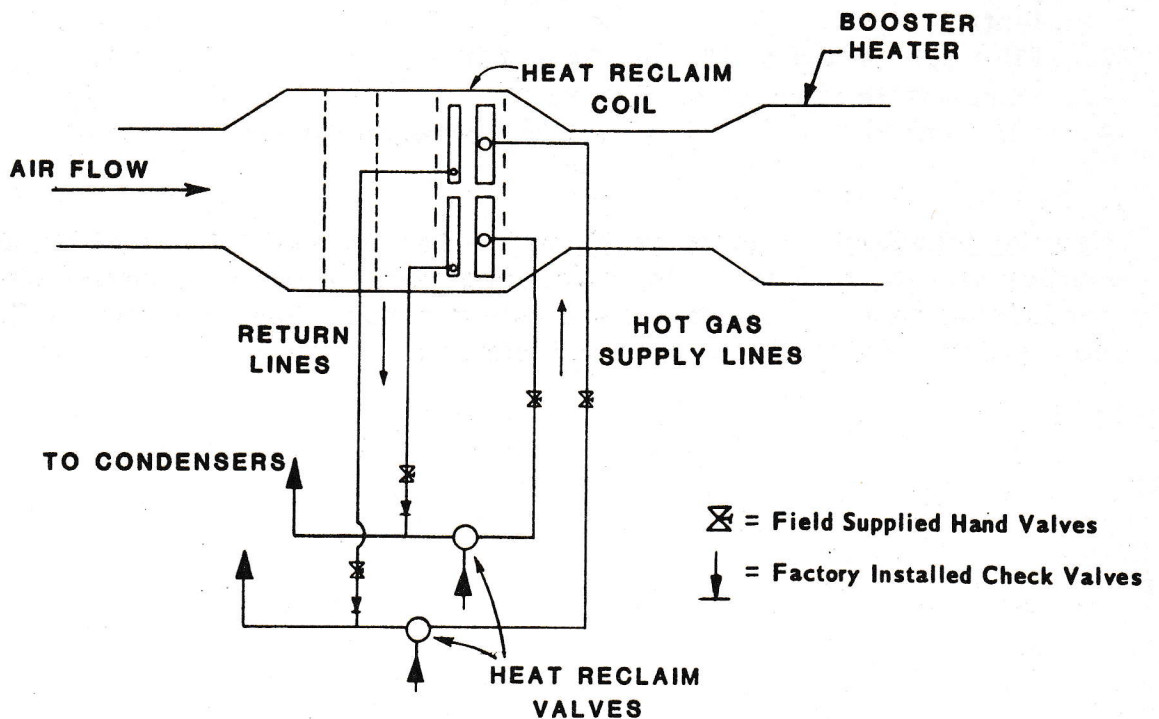

Figure IX-11
1. Supply Line - Connect a supply line from the stub marked "Inlet Heat Coil" on the Plus IV compressor unit to the inlet header on the heat reclaim coil. The inlet stub leads from a reversing valve located at the oil separator end of the compressor unit. See Figure IX-11. A hand valve located in the supply line is recommended.
2. Return Line - Connect a return line from the stub marked "Heat Coil Return" on Plus IV to the liquid header (bottom connection) on the heat reclaim coil. See Figure IX-11. A hand valve located in the return line is recommended.